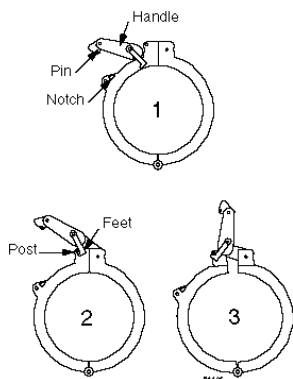

Figure 6
1. Push the handle to the side to release the pin from the notch, then lift the handle. See Figure 6, step 1.
2. Hook the "feet" of the handle behind the two posts and pry open one half of the clamp. See Figure 6, steps 2 and 3.